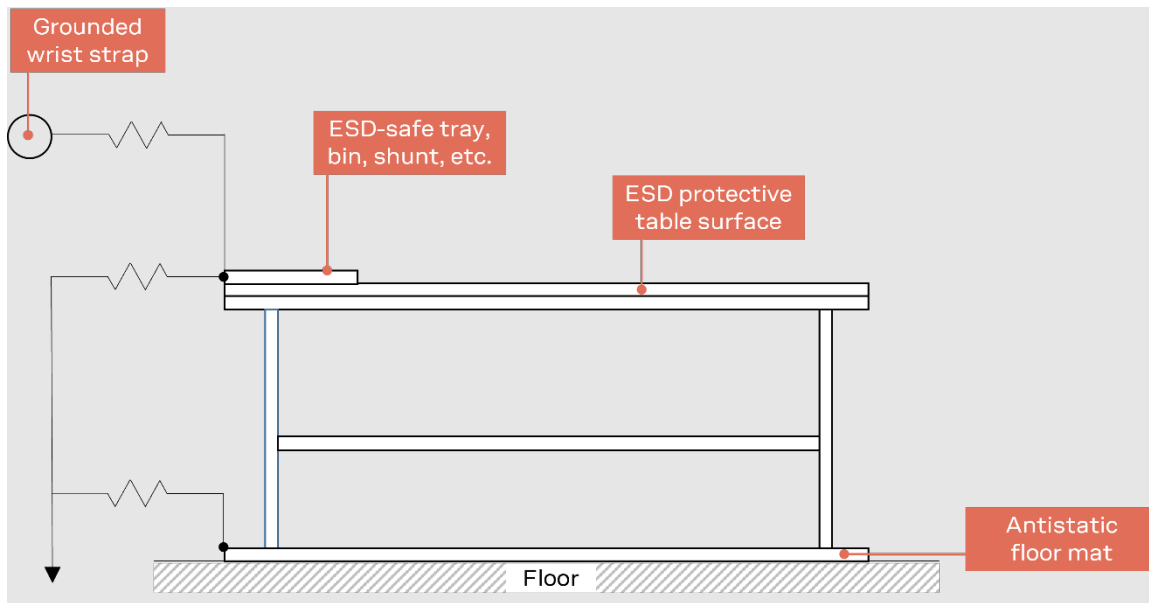

Figure 7: Standard workstation setup for safe handling of ESD-sensitive devices
- ⚠ As the risk of electrostatic discharge in the RF transceivers and patch antennas of the module is of particular concern, standard ESD safety practices are prerequisite. See also Figure 7.